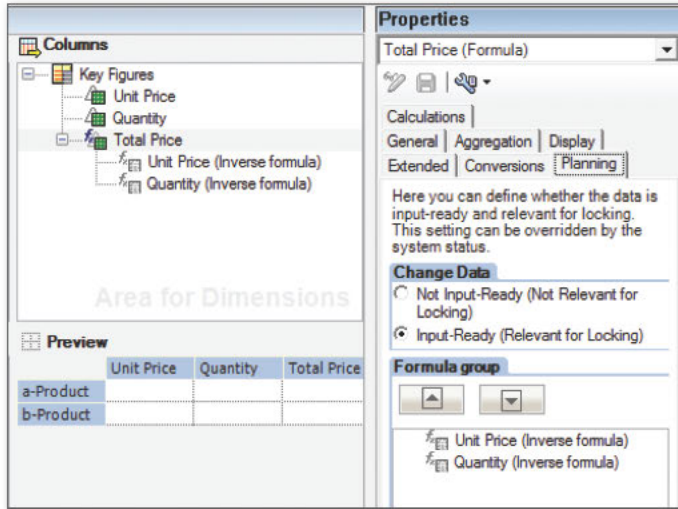

Figure 1 Creating the Formula for Total Price
1. Create a formula (TOTAL PRICE) and make it input ready by clicking the INPUT-READY (RELEVANT FOR LOCKING) radio button in the CHANGE DATA area (see Figure 1).